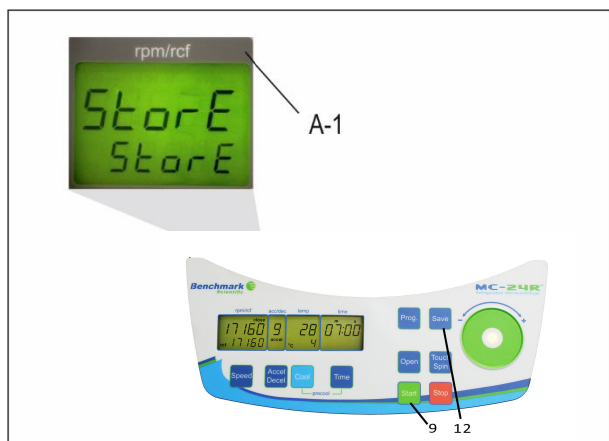

Figure 7
- All changed settings must be confirmed by the key "save" or "start" (9). A confirmation screen will appear with the word, "store", in the display "rpm/rcf" (A-1) - Only then the pre-selections are valid (see Figure 7)!